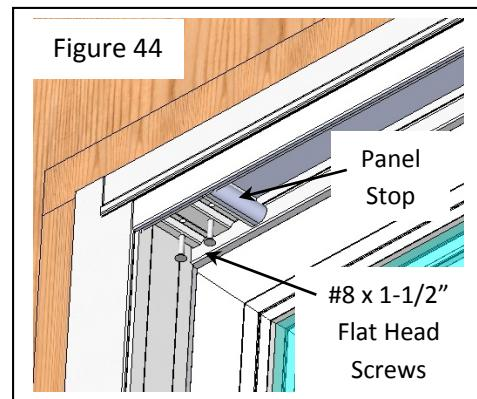

Figure 44
32) Install the panel stops (located in the handle hardware box) into the head at each end as shown (Fig. 44). Place the end of the stop against the interior track cover in the side jamb and drive two #8 x 1-1/2" Flat Head screws.